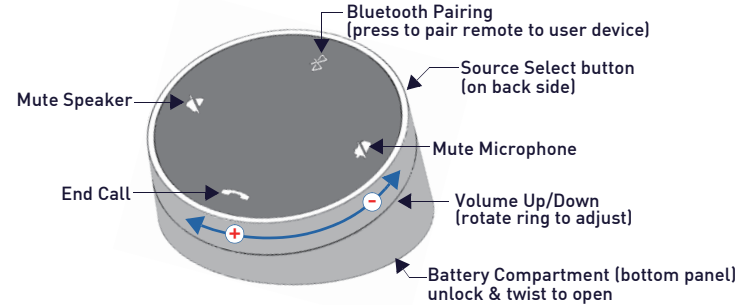

FIG. 9 ACENDO VIBE REMOTE CONTROL
The ACV-2100 includes a wireless remote control (FIG. 9):
- Press and hold both the **Source Select** and **Bluetooth Pairing** buttons on the remote control for 5 seconds (see FIG. 9). All LEDs on the remote control should start blinking or remain blinking about once per second.